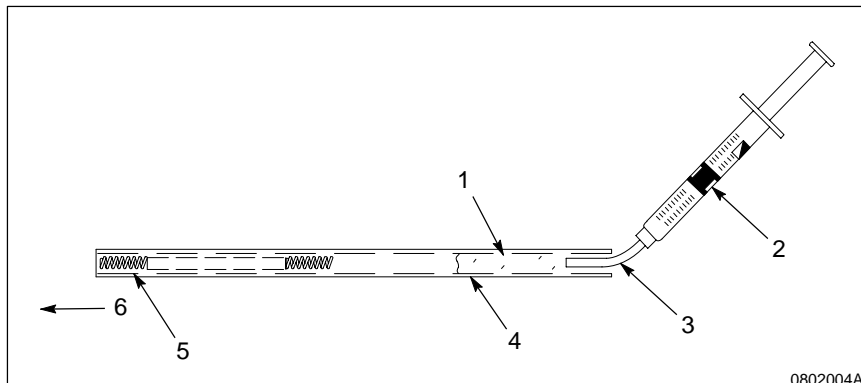

Fig. 4 Applying the dielectric grease to the Model C-1 gun
6. See Figure 4. Clean as much dielectric grease from the insulating tube (4) as possible. Use a round brush to clean the grease from the tube.